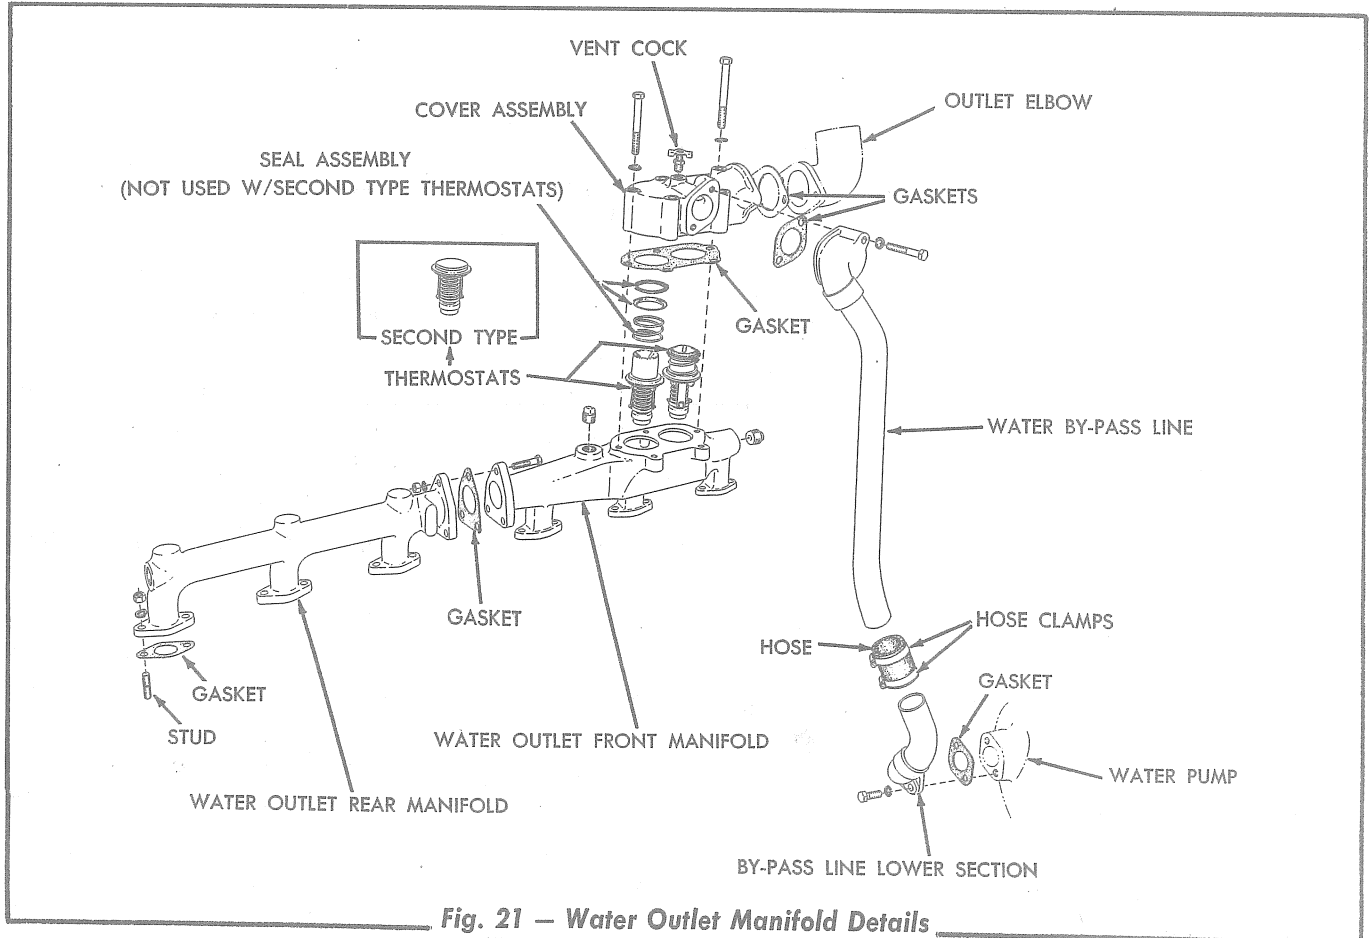

Fig. 21 — Water Outlet Manifold Details
C. Thermostat Replacement (Figs. 21 and 22)
6. Place a gasket in position on the water outlet manifold, and install the thermostats and the seal assemblies as shown in Fig. 21 or 22. Place the water manifold cover in position on the manifold and secure with capscrews and lockwashers.